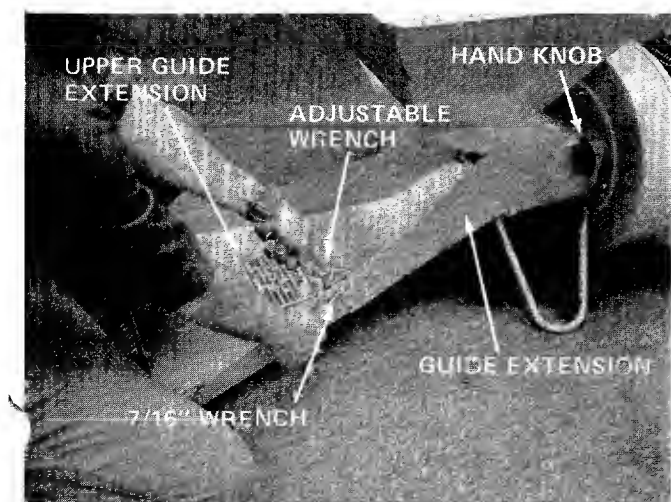

FIGURE 5
5. Loosen the hand knob on the right hand side of the shredder. See figure 5.
6. Place upper guide extension in place on guide extension. Secure with four hex screws (B) and hex center lock nuts (C). A 7/16" wrench and adjustable wrench are required. See figure 5.